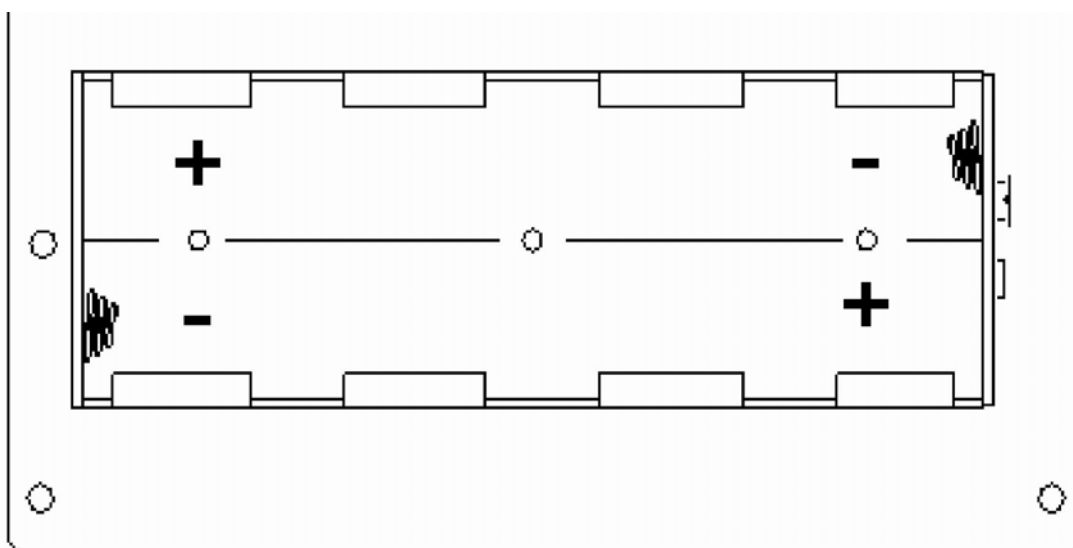

Figure No. 3
6. Install the new 6 "C" size batteries in the holder, noting the polarity markings located in the battery holder. Refer to Figure No. 3.